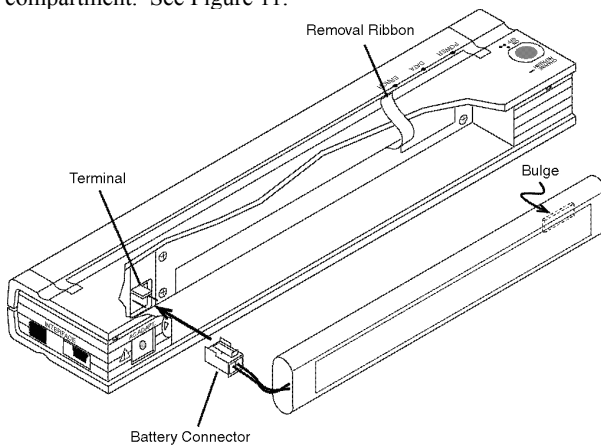

Figure 11. Pushing the battery connector into the terminal
3. Gently push the battery connector into the terminal on the inside of the printer's battery compartment. See Figure 11.